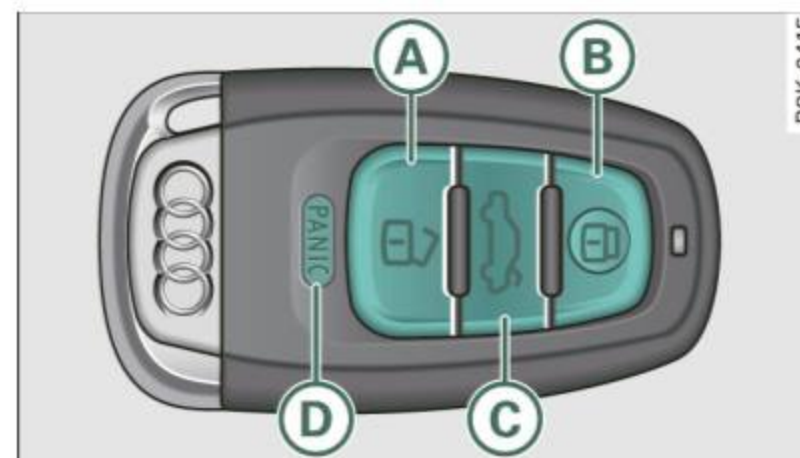

Fig. 35 Remote control: function buttons
If you switch **Trunk lid/tailgate On**, then the handle on the rear lid ⇒ *page 51*, fig. 42 is locked. In this case the rear lid can be opened with the button  on the master key ⇒ fig. 35 or with the unlocking button in the driver's door ⇒ *page 51*, fig. 41.
- Press button  **(A)** to unlock the vehicle ⇒ fig. 35.